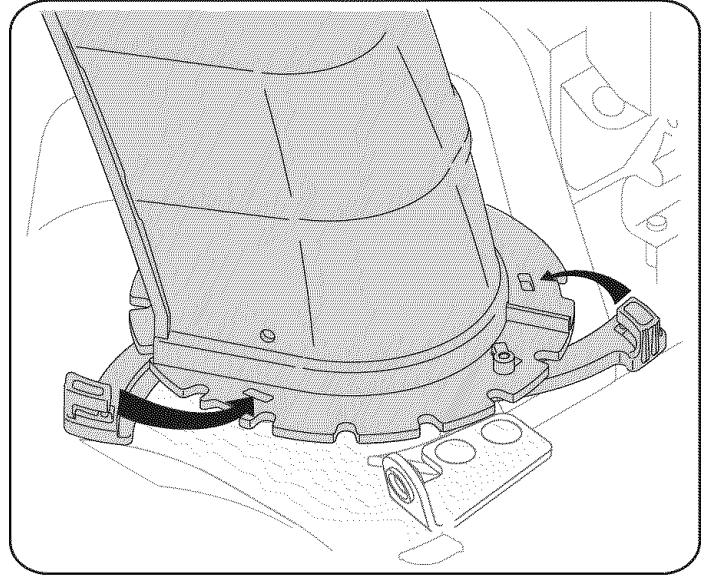

Figure 4
5. Close the flange keepers to secure the chute assembly to the chute base. See Figure 4. The flange keepers will click into place when properly secure.